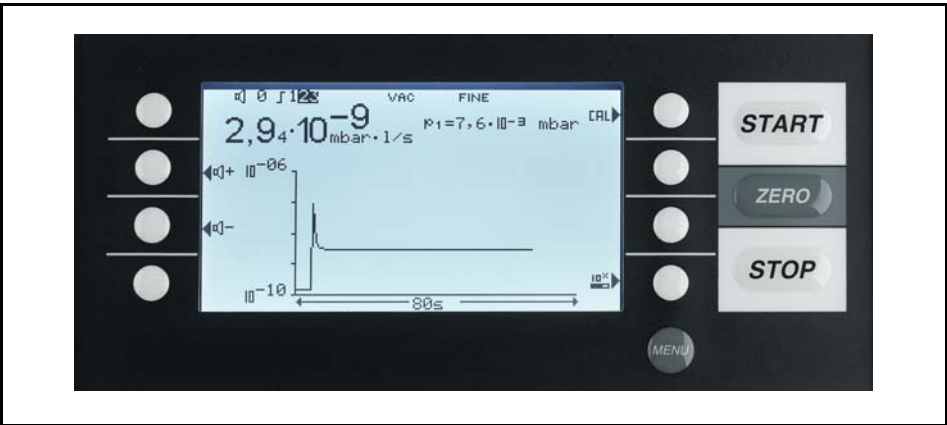

Fig. 11 Display: Measurement mode with bargraph
- As trend: numerically, combined with a diagram (leak rate versus time) Fig. 11.
In the lower right corner of the display (next to the Soft Key no. 8, Fig. 10 and Fig. 11) you will find a symbol that allows to switch between the display modes by pressing Soft Key no. 8. See chapter 3.2.9 and 3.2.10 for explanations of the different display modes.
Access to calibration (Soft Key no. 5, Fig. 10 and Fig. 11) and access to the speaker volume (Soft Keys no. 2 and no. 3, Fig. 10 and Fig. 11) is the same in all modes. Also the status icons in the upper line are in common in both display modes.
On the left hand side two loud speaker symbols are shown, combined with the signs + and - (Fig. 10 and Fig. 11). By pressing the corresponding soft keys (Soft Keys no. 2 and no. 3) the volume can be adjusted for convenient loudness. In the bottom line of the display another loud speaker symbol is shown, combined with a number. This number indicates the level of the current loudness (ranges from 0 to 15).
The status line at the top of the display (Fig. 10 and Fig. 11) informs about (reading from left to right):
In trend mode the leak rates are displayed over time Fig.11. In addition the actual leak rate and inlet pressure also are displayed digitally. The time axis can be defined in the menu (Please refer to Chapter 3.6.5). The intensity axis (y-axis) is defined the same way as the bargraph (Please refer to Chapter 3.6.4).